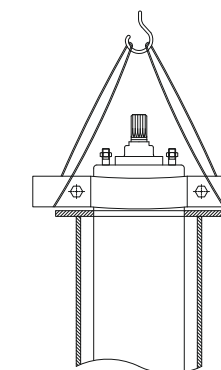

Fig. 12 Motor in vertical position
2. Place the motor in vertical position at the borehole seal, see fig.12.